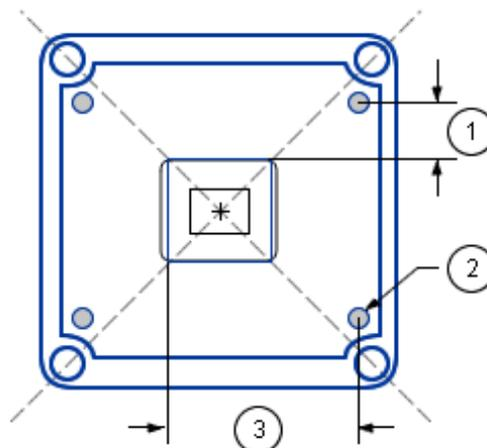

Figure 32: Positioning tolerances of sensor chip
- Tolerance of mounting holes on the printed circuit board because of the excess of the holes ± 0.1 mm (Figure 32; 2).
Because there is no defined tolerance between conductive pattern and mounting holes, the general defined tolerance of ± 0.1 mm is valid (Figure 32; 1 in the Y-direction ± 0.1 mm; 3 in the Z-direction ± 0.1 mm)